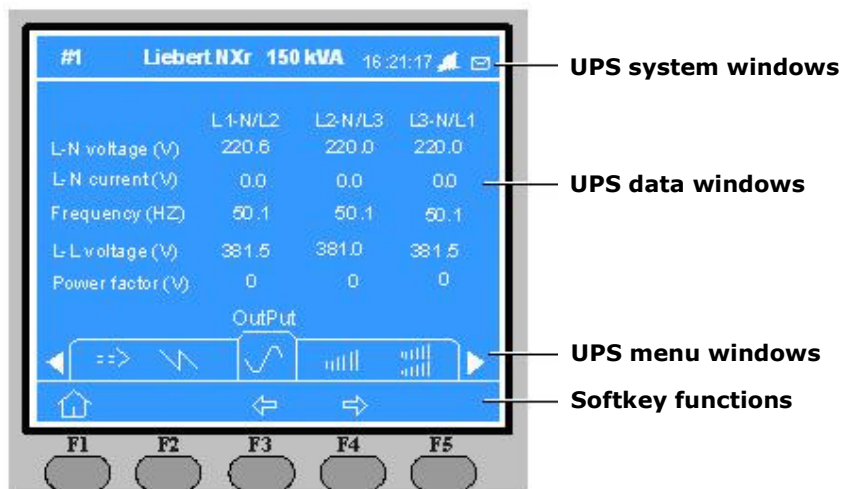

Fig. 7-2: Sections of the LCD and menu buttons
The icons above the F1 to F5 buttons clearly explain the meaning of each button. As shown in Fig. 7-2 pressing F1 can move the cursor (at AC Output) from menu window (2) to the current event log window (4), and firstly move the cursor to “Close rectifier input circuit breaker”. Pressing F2 can move the cursor from “AC Output” menu to “Bypass Input” menu.
The LCD menu tree shown in Fig. 7-2 is described in details below.